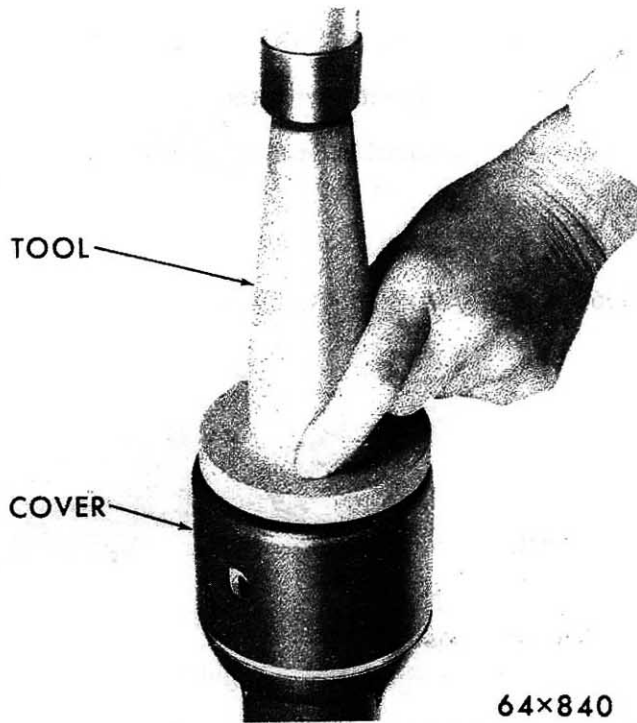

Fig. 40 - Installing the Turn Signal Cover
- (16) Install the horn contact in the actuator housing.
- (17) Position the steering column actuator to the center position and remove the release lever.
- (18) Install the turn signal cover with Tool C-3955 aligning the openings for the release and turn signal levers, and with the small tang on the lower edge of the cover in line with the groove in the actuator housing (Fig. 40).
- (19) Install the turn signal and release levers.
- (20) With the turn signal lever in the neutral position, install the bowden wire on the switch pin and install the cable clamp and attaching screw.
- (21) Position the turn signal switch in the neutral position and install and tighten the attaching screws. Check the operation of the switch in all positions.